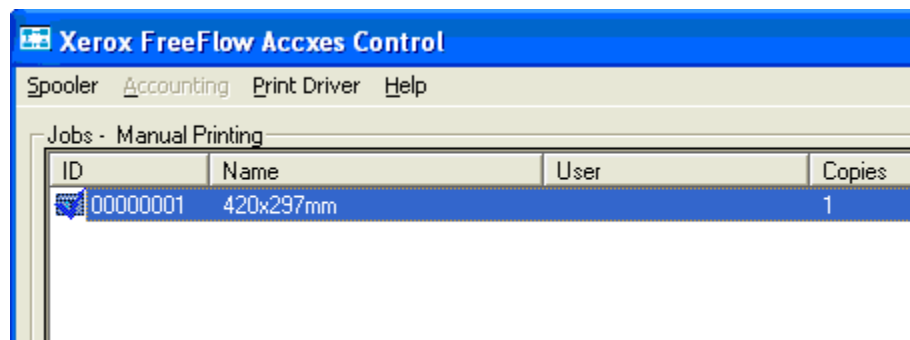

Fig 2.5
- Highlight the paused Small Format Device and click the Play button to the right to release the queue. The print job will be printed on the device configured earlier in this tutorial. The print job will now be identified as printed by a printer icon overlaid with a blue tick, as shown below (Fig 2.5).